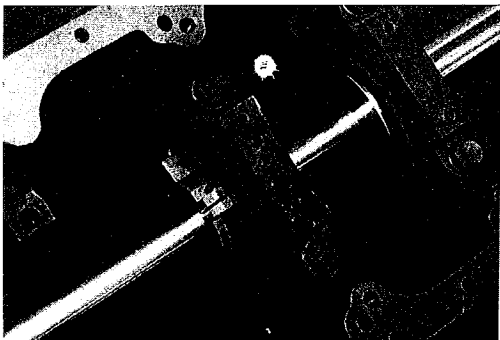

Fig 8 Cutter Holder Attached to Boring Bar
3. Wipe the boring bar and the cutter holder clean, and place the cutter holder on the boring bar next to the journal to be cut. (Note the direction of feed travel). To assemble the large cutter holder, slip the halves together and tighten socket head cap screws. Compare the cutter tip with the bore while turning the line bore bar by hand to insure the cutter setting is correct. (CAUTION: Always double check specifications before boring.) (See Fig 8)